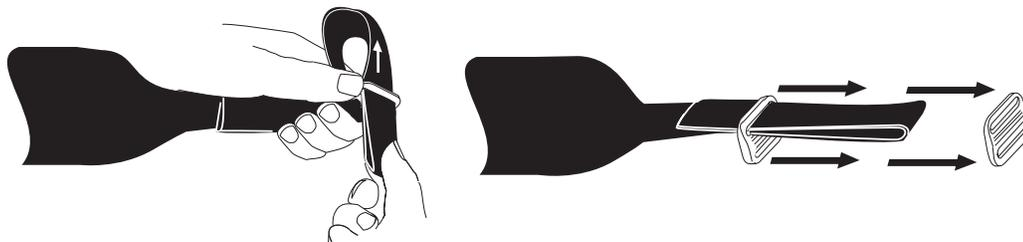

Figure 3
Step 2: Remove the pulling sleeve loop by feeding the mesh (sleeve) loop back through the buckle (Figure 3). When the buckle is removed, store it or tape it to the trunk cable so that you can reuse in the future.